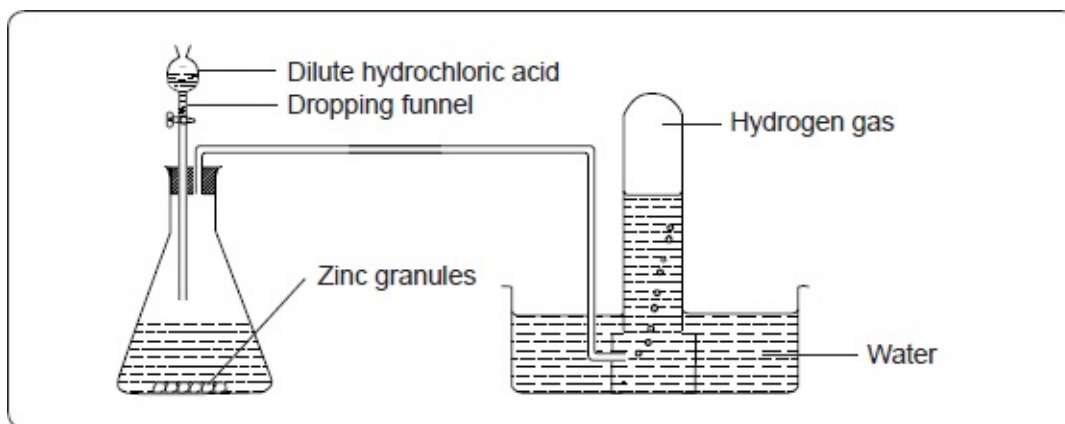
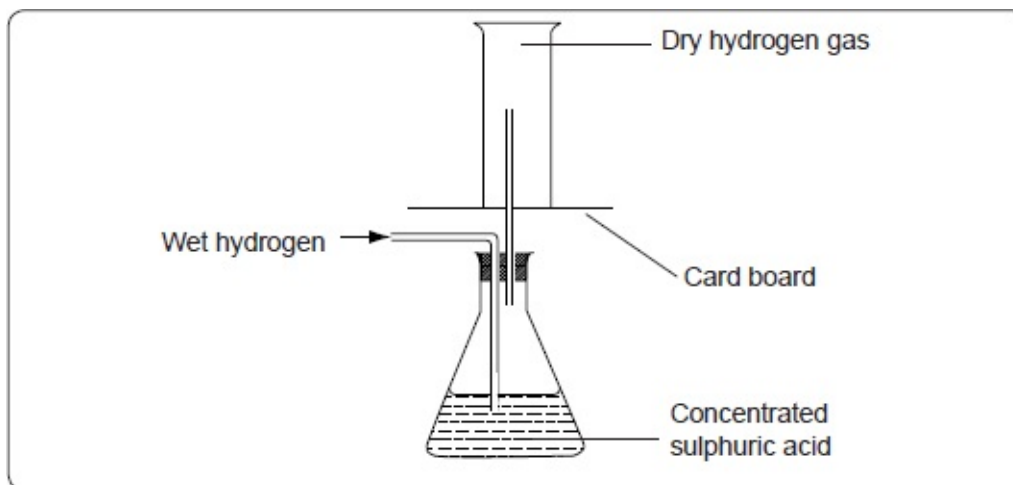

Fig 5.6: Preparation of hydrogen gas.
Fig 5.7: Collection of dry hydrogen.
Put a few zinc granules into a conical flask and arrange the apparatus as shown in figure 5.6. Add dilute hydrochloric acid using the dropping funnel and collect several test-tubes of the gas produced. If the reaction is slow, add a few crystals of copper (II) sulphate. If the gas is required dry, it should be bubbled through concentrated sulphuric acid and collected by upward delivery as shown in figure 5.7.